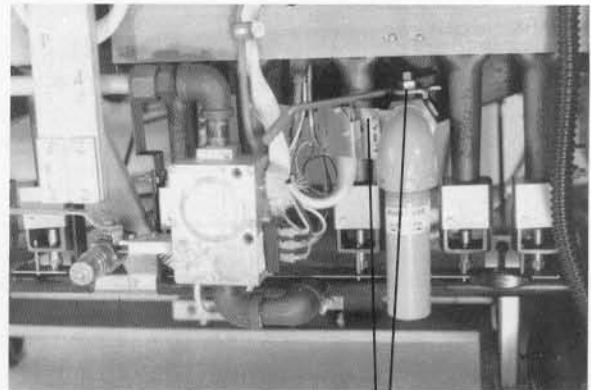

Figure 26
15. Remove drain valve handle (Fig. 26).
16. Remove safety drain switch from drain elbow bracket (Fig. 26).